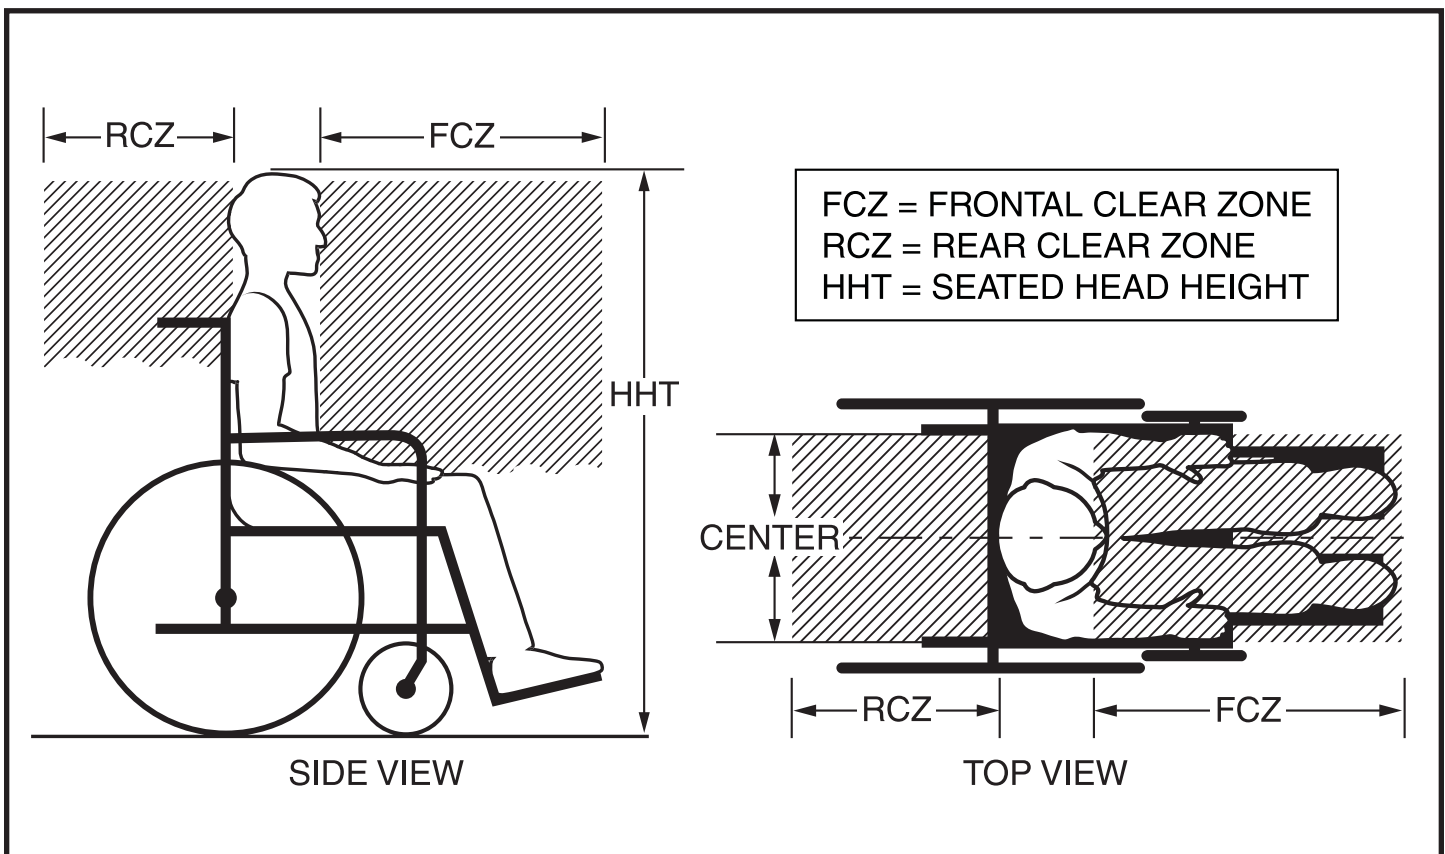

Figure 14. Recommended Clear Zones for Power Chair-seated Occupants
- The frontal clear zone (FCZ) is measured from the forwardmost point on the occupant's head and should measure at least 66 cm (26 in.) if both a pelvic and upper-torso belt are used. **See figure 14.**
- The rear clear zone (RCZ) is measured from the rearmost point on the occupant's head and should measure at least 40.64 cm (16 in.). **See figure 14.**
- The seated head height (HHT) ranges from about 120 cm (47 in.) for a small adult female to about 155 cm (61 in.) for a tall adult male. **See figure 14.**